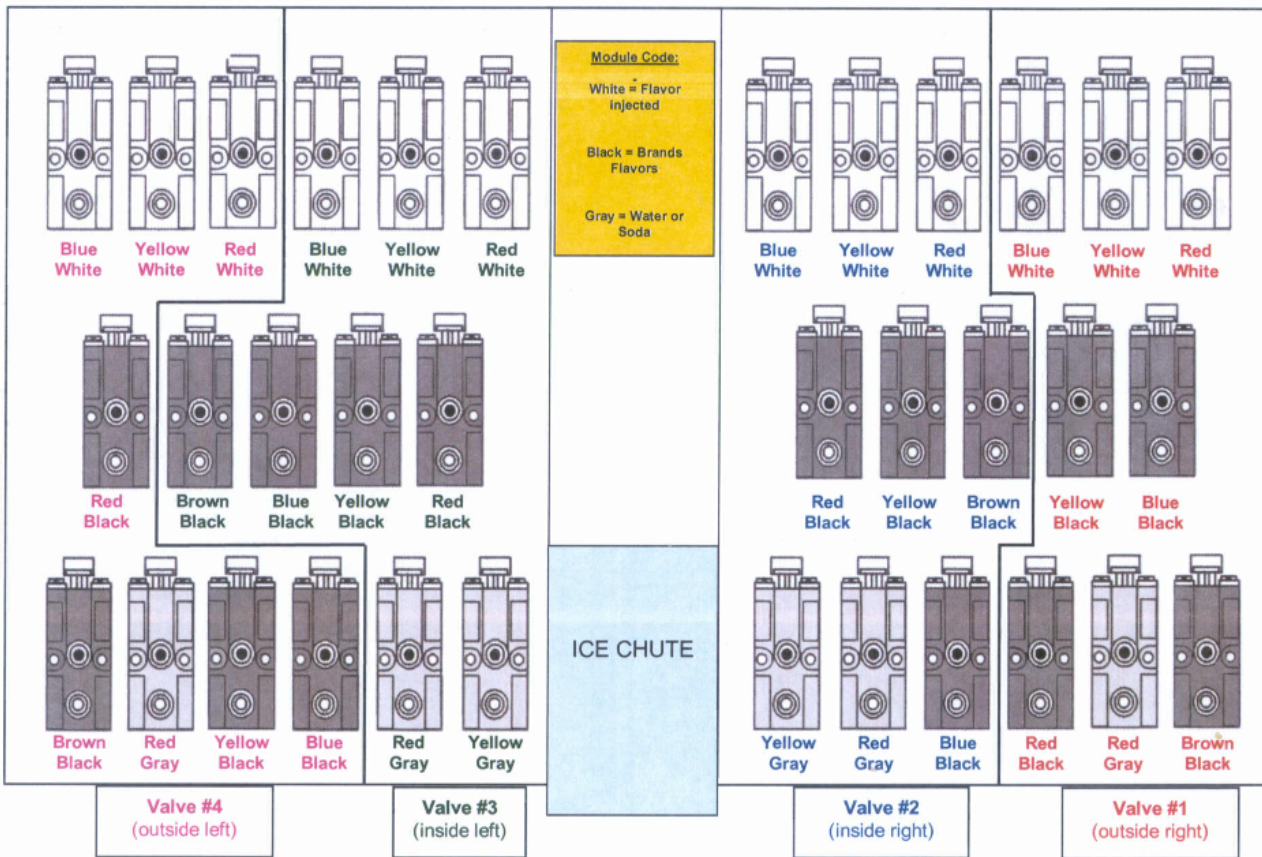

Figure 23
- 1.12 Beginning with bottom row of modules (Water or Brand Syrup), reinstall modules, lock in place with Valve Retainer and connect new harness coil wiring using chart in Figure 23. Open Mounting Block valves. Complete each row before proceeding up to the next.